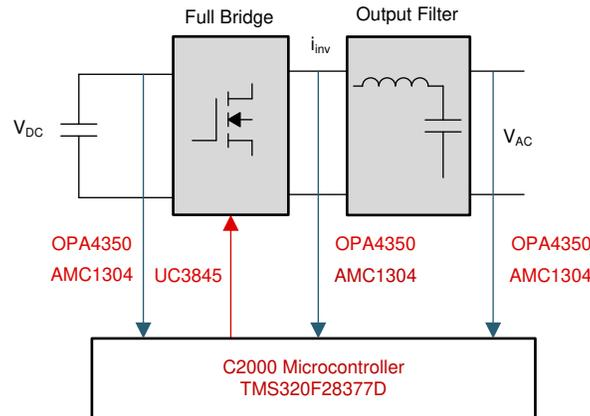

图 1. Typical Single Phase Inverter
A typical inverter comprises of a full bridge that is constructed with four switches, which can be modulated using pulse width modulation (PWM), and a filter for the high-frequency switching of the bridge, as shown in 图 1. An inductor capacitor (LC) output filter is used on this reference design.